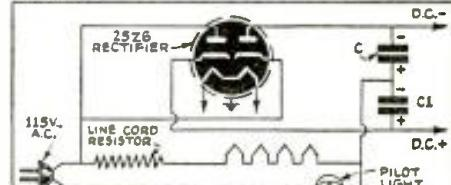

FIG. 2C ~ VOLTAGE-DOUBLER RECTIFIER - TYPICAL CIRCUIT FOR TRANSFORMERLESS SET ~
- (c) A Voltage-Doubler Rectifier Circuit, per Fig. 2C.